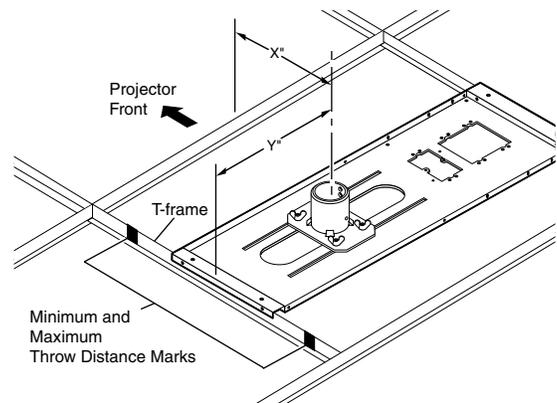

Figure 2 — Minimum and maximum throw distances
- b. Remove the ceiling tile, and mark the projector's maximum and minimum throw distances on the T-frame (see figure 2).
- b. Measure the distances X and Y (see figure 2) from the inner vertical section of the front and left T-frame runners to the center of the Pipe Adapter Plate.